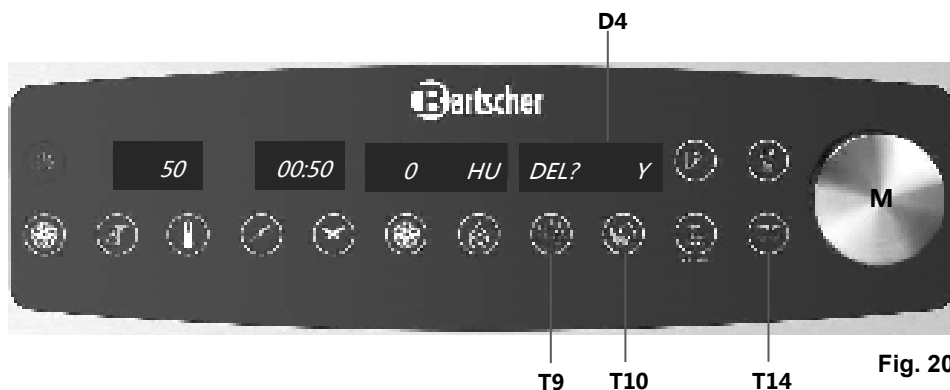

Fig. 20
To save the changes press key **T10** (fig. 20) for 3 seconds. The modified program overwrites the previous version.
3. Press and hold key **T9** (fig. 20)
4. The indicator **D4** (fig. 20) shows **DEL? N**
5. Rotate knob **M** (fig. 20), the indicator **D4** (fig. 20) displays the question **DEL? Y**.
In order to **remove a part of the cooking program** select the cooking phase to be removed and press key **T9** (fig. 20). Then follow the instructions in sections 4 and 5 above.